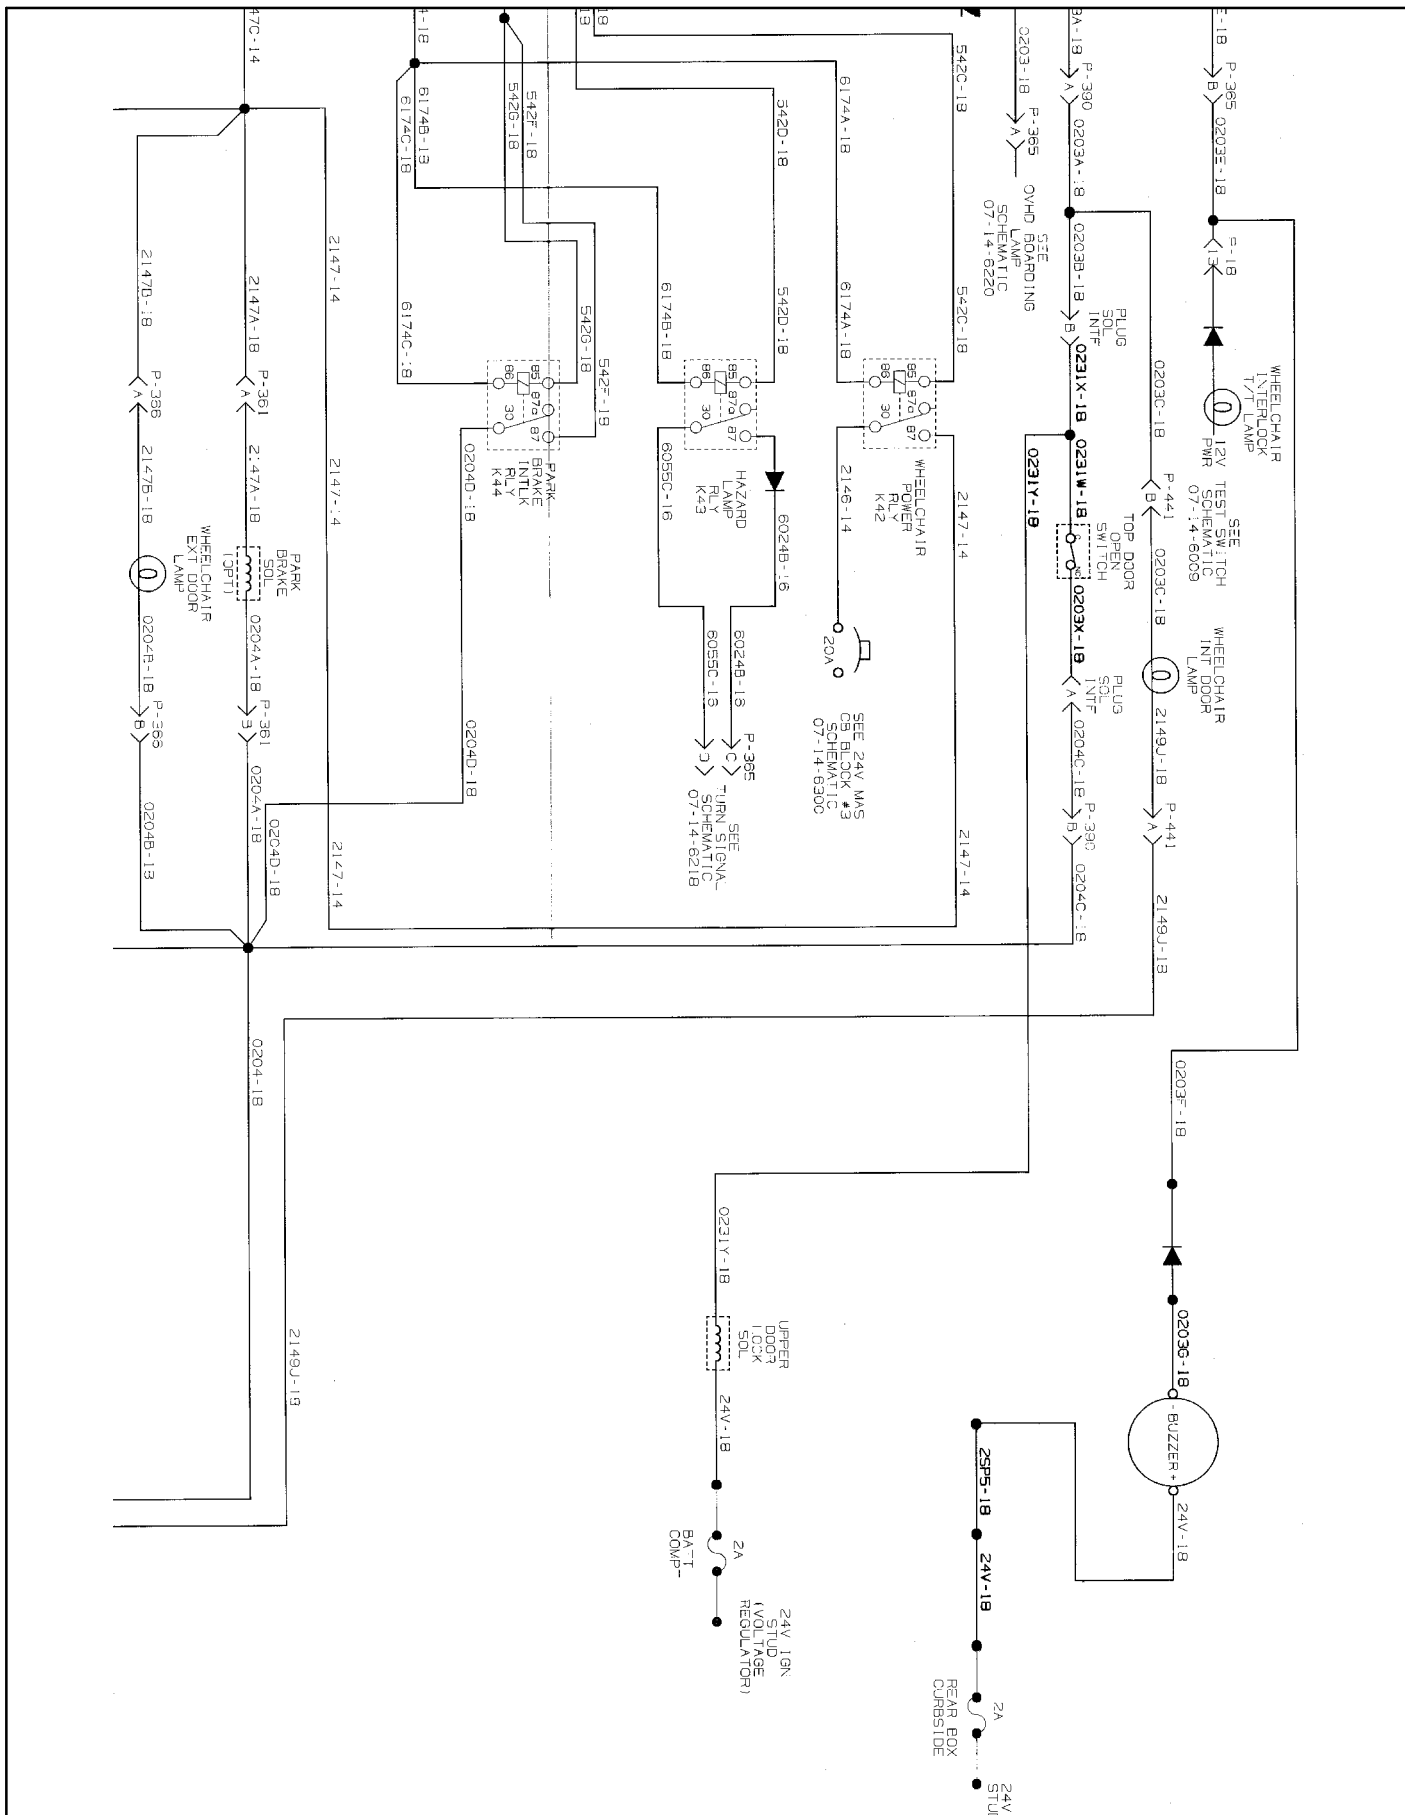

Figure 21. Schematic for non-multiplex coaches.
26. Remove ring terminals on existing harness that was disconnected in Step 20. Insert pins p/n 19-11-760, seals, p/n 19-11-2048, and connector, p/n 19-11-845 (refer to schematics in Figure 21 or 22).
28. Connect solenoid adapter harness to the switch and actuator removed in Step 20. , the assy-solenoid p/n 03-31-3265, and the 24V ignition terminal on the voltage regulator (refer to schematics in Figure 21 or 22).